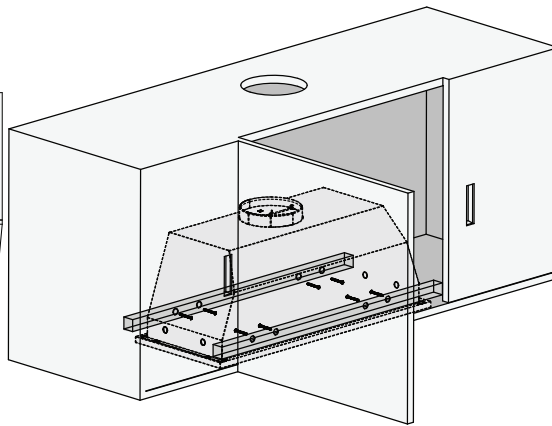

Figure 5
- Use 8 screws to fix the hood onto the front and rear wooden beams (see Figure 5).